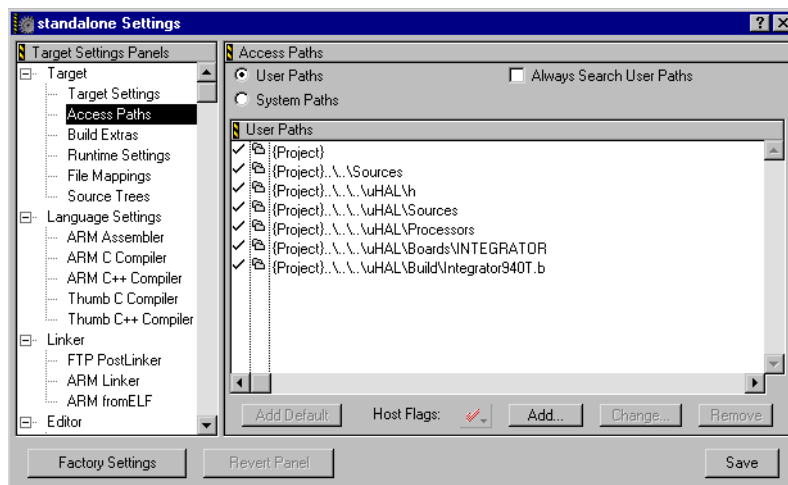

Figure 5-7 Access paths
- b. Select **Access Paths** from the left panel (see Figure 5-7).